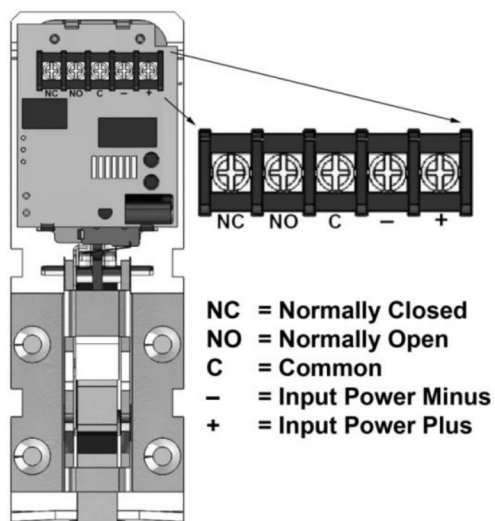
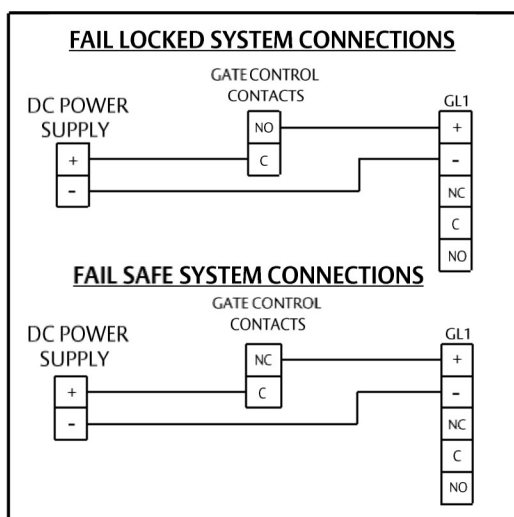

Figure 8. PC Board Terminal Block
Figure 9. System Connections
6. CONNECT wires to the terminal block on the PC board (see Figure 8, “PC Board Terminal Block,” and Figure 9, “System Connections”).